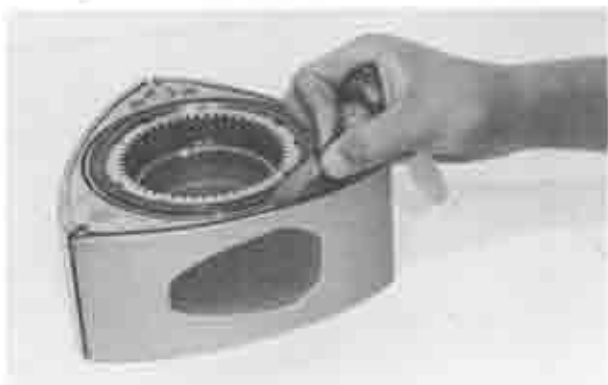

Fig. 1-47 Checking side seal clearance
3. Check the clearance between the side seal and the groove with a feeler gauge, as shown in Fig. 1-47. The standard clearance is 0.03 ~ 0.07 mm (0.0012 ~ 0.0028 in). If the clearance exceeds 0.10 mm (0.0040 in), replace the side seal.